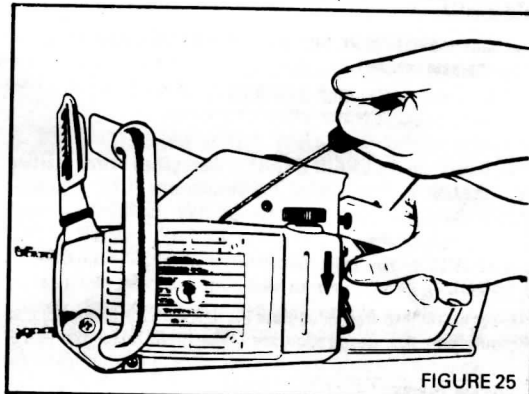

FIGURE 25
3. Pull the starter handle out slowly about 15 to 30 cm (6 inches) and move the ignition/stop switch to the "STOP" position. (Figure 25).